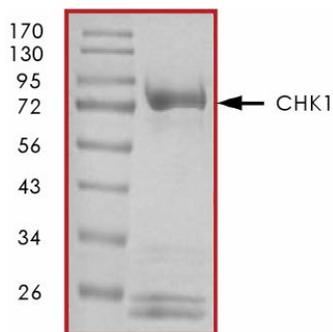

Figure 1: The approximate molecular weight is 82 kDa and the purity is > 95%.
- Molecular Mass** ♦ The approximate molecular weight is 82 kDa (see Figure 1 below).
- Purity** ♦ The purity was determined to be > 95% by densitometry (see Figure 1 below).